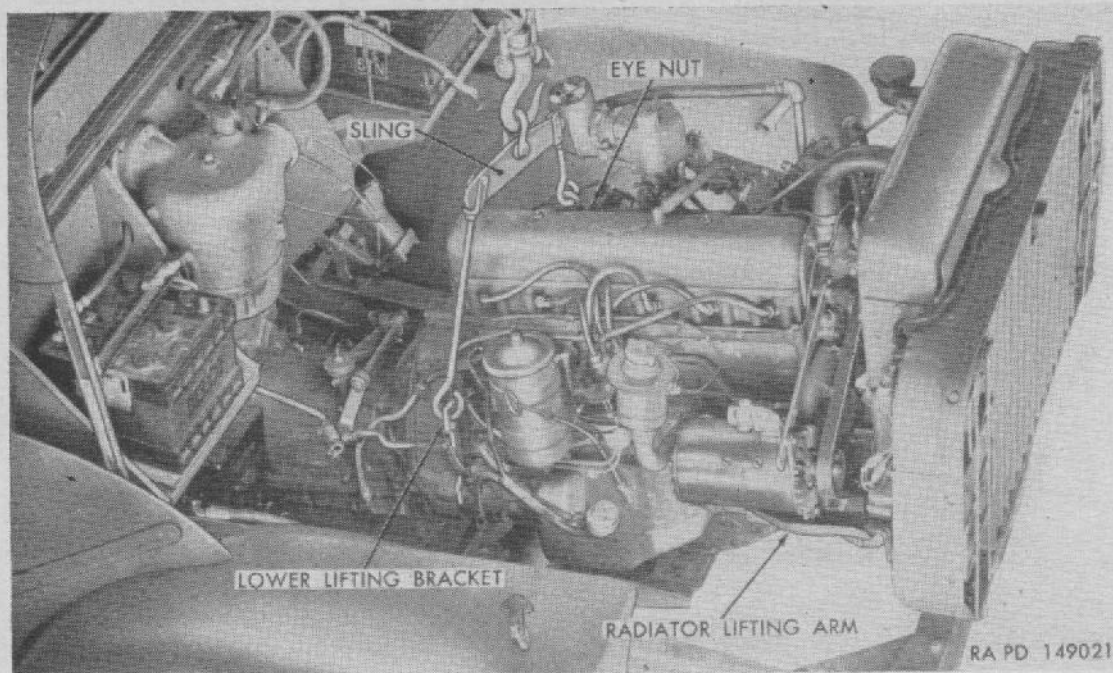

Figure 40. Removing power plant with sling—7950170.
- (1) Remove four bolts connecting transmission-to-transfer universal joint flanges (Y).
- (2) Remove bolt from front-to-rear-exhaust-pipe clamp at support; then remove exhaust-pipe-to-muffler clamp (W). Move exhaust pipe away from muffler and pull upper end of pipe free from exhaust manifold and remove exhaust pipe from vehicle.
- (3) Remove two bolts from radiator support mounting (P) at bracket riveted to front cross member.
g. RAISE POWER PLANT FROM VEHICLE (fig. 40).
- (1) Engage short hook of engine lifting sling 7950170 with eye nut and long hook with lower lifting bracket. Attach hoist to engine sling cross bar.
- (2) Inspection should be made to see if all disconnect operations have been completed before power plant is raised off mountings.
- (1) Hook engine lifting sling 7590170 into eye nut and lower lifting bracket on engine. Attach sling to hoist (fig. 40).